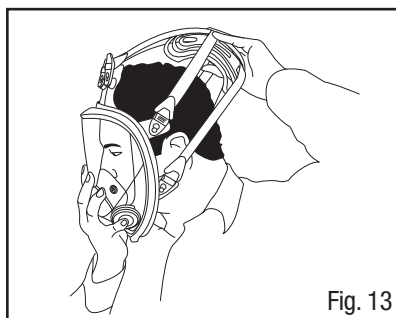

Fig. 13
2. Hold the front of the facepiece with one hand and the straps/comfort cradle away from the facepiece with the other hand, creating an opening for the head. Pull the respirator assembly down over the head and face through the opening. Place the nose in the nose cup and chin in the chin cup area then press the facepiece firmly and evenly against the face (Fig. 13).
3. Pull head harness to back of head (Fig. 13).